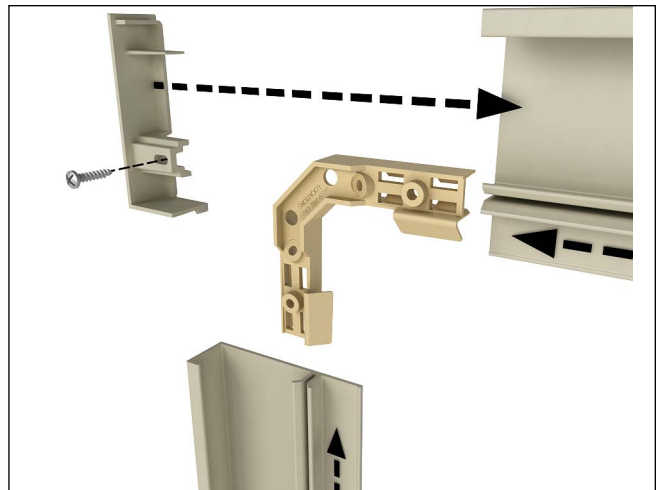

Figure 30
3. Attach end caps to casing with supplied screws. See *figure 30*. Use tab to align jamb casing to header and sill pieces.